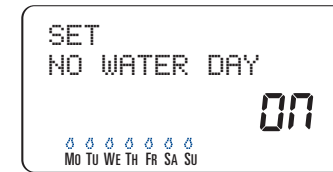

Figure 19: Display - “No Water Day”
- Press the **NEXT** button until the desired day of week flashes and press **CLEAR**. [See Figure 19]